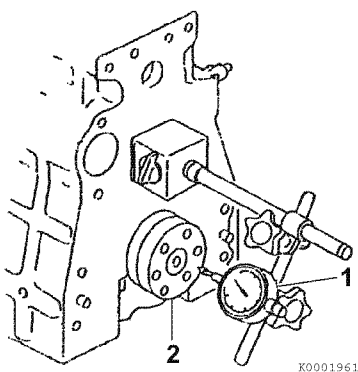

Figure 6-57
- **Method A:** Install a dial gauge (**Figure 6-57, (1)**) on the cylinder block. Move the crankshaft (**Figure 6-57, (2)**) in and out to measure the end play. Record the measurement.